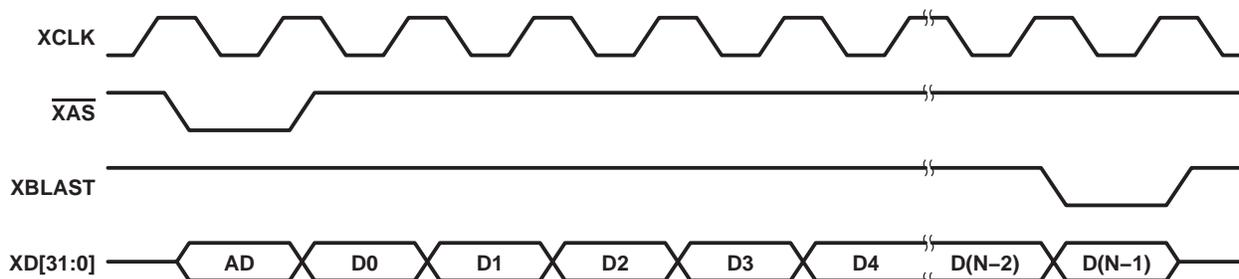

Figure 4. Correct Transfer of Address and Data via the Synchronous Host Port Mode of the Expansion Bus
While the expansion bus is operating in Synchronous Host Port Mode, certain expansion Bus output signals may be corrupted. The corruption occurs on output signals only and there are no known issues with any other XBUS modes (Asynchronous Host Mode, Asynchronous I/O Mode, or Synchronous FIFO Mode). In Synchronous Host Port Mode, some or all outputs of the XD signal lines move from the next word into the current word being transferred. This corruption not only affects the XD signal lines, but the output control signals as well (XAS, XBLAST, etc.). Figure 4 shows what a typical Synchronous Host transfer should look like. Figure 5 shows the address (AD), as well as data word 2 (D2) being corrupted by the next word. In this figure, the address is corrupted by D0 and D2 is written over by D3. Figure 6 is an example showing D0 being completely corrupted by D1 and D3 being partially corrupted by D4. The transfer should be 0x0001, 0xFF02, 0x0003, ..., 0xFF1F to Address 0x8000.